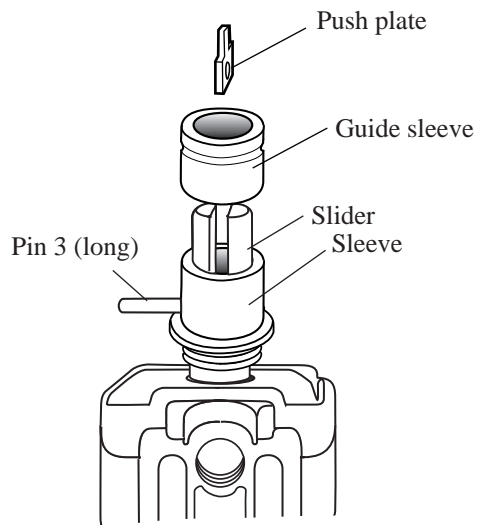
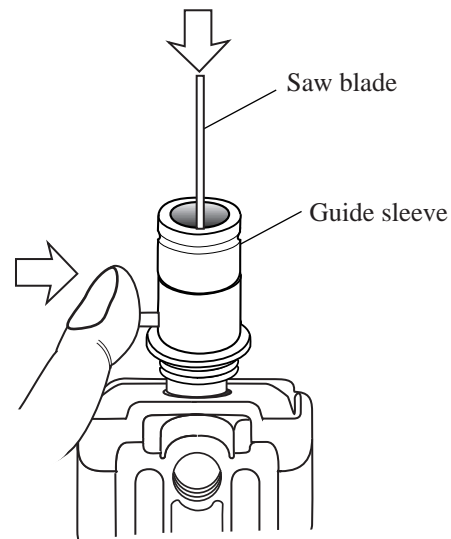

Fig. 9
Fig. 9A
3. Set guide sleeve to slider and insert push plate into slider as illustrated in Fig. 9. Push the push plate in the vertical direction with saw blade, and pass pin 3 (long) through the hole of push plate as illustrated in Fig. 9A.